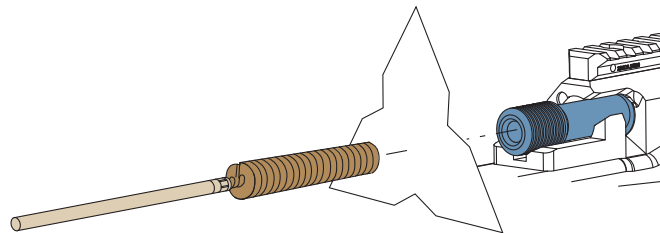

Fig 6-1
- Fit a triangle patch onto the jag brush and pass through to dry the bore and chamber (see Fig 6-1 on page 36).